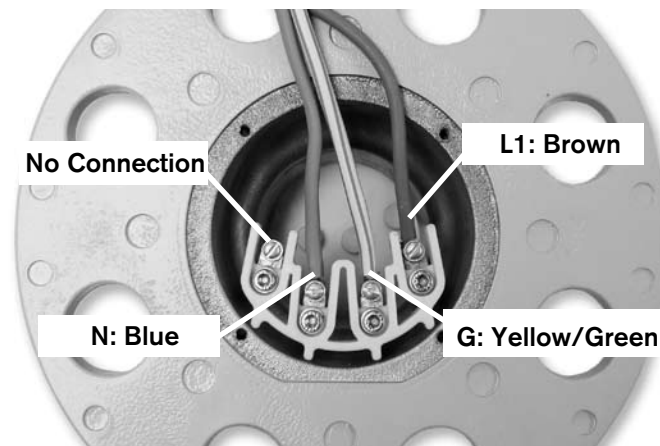

Fig. 4b Wire run to the yaw connection (230V, 50Hz, single phase).
- **230 V, 50 Hz, 1 Phase systems:** Connect the brown, blue and green/yellow wires to the matching corresponding color coded terminals on Skystream yaw. There is no wire connection to bare yaw terminal as shown in Fig 4b. Tighten wire terminal screws to 20-25 inch-lbs (2.3-2.5 N-m).